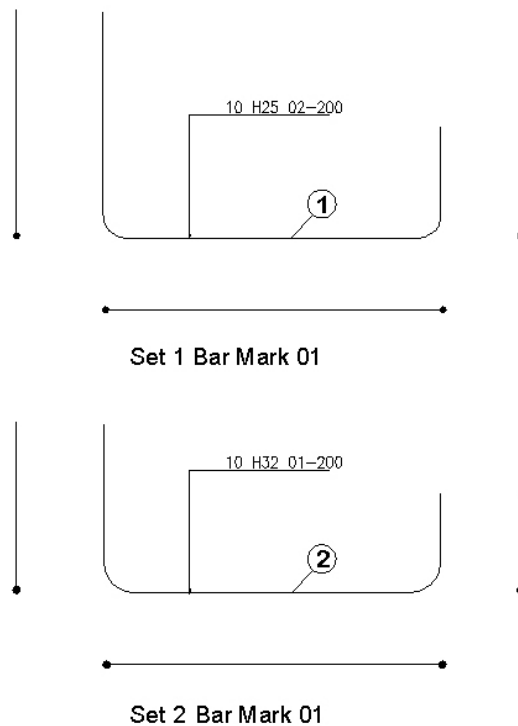

Figure 7.2.4:4 Editing the properties of Shape Code 21
15. Select **CADS RC** → **Editing** → **Edit Bars** or  or double click the bar as marked by point 2 in figure 7.2.4:4 above